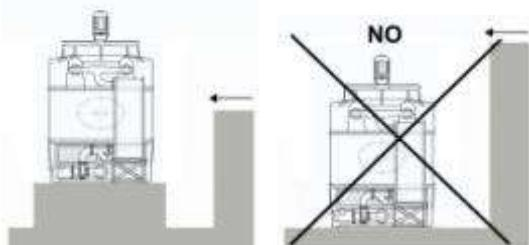

Fig. 29
- e) In case of existing obstacles close to the tower and higher than it, it will be necessary to install the tower in a higher position in order to get an air exit at the same height, at least, than the obstacle, especially in case the predominant air direction will be as indicated in Fig 29.